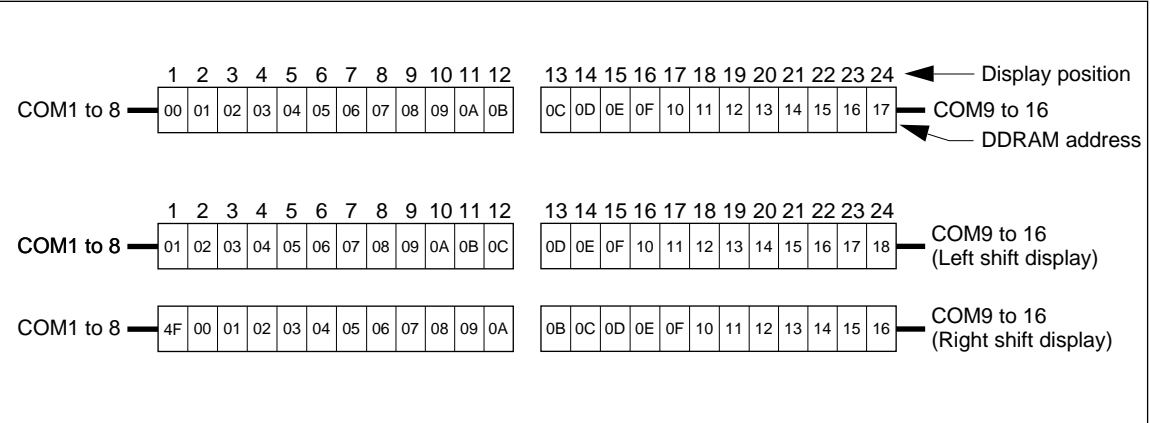

Figure 2 1-Line by 24-Character Display (5-Dot Font Width)
- Case 1: When there are fewer than 80 display characters, the display begins at the beginning of DD RAM. For example, when 24 5-dot font-width characters are displayed using one HD66712, the display is generated as shown in figure 2.